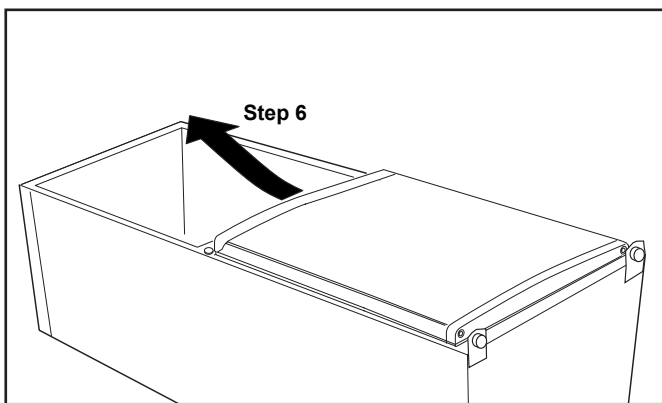

Fig.5
6. Slide bottom door upwards and away from lower hinge pin and place to one side. *Fig.5*